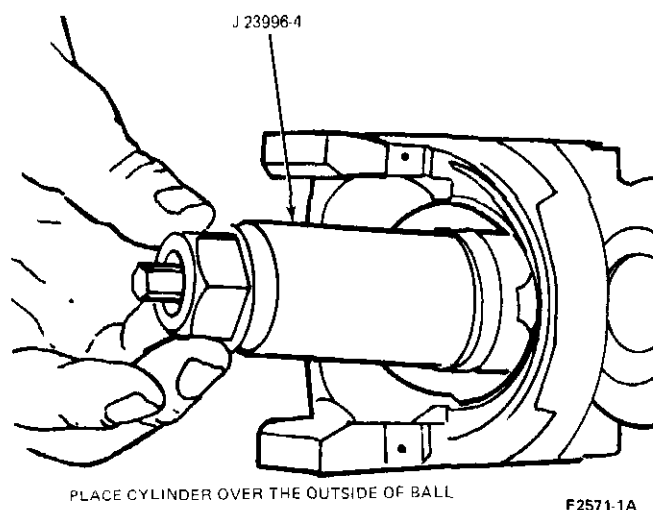

FIG. 15 Positioning Outer Tool Cylinder
9. Place outer cylinder of tool, Part No. J-23996-4, over the outside of the ball (Fig. 15).